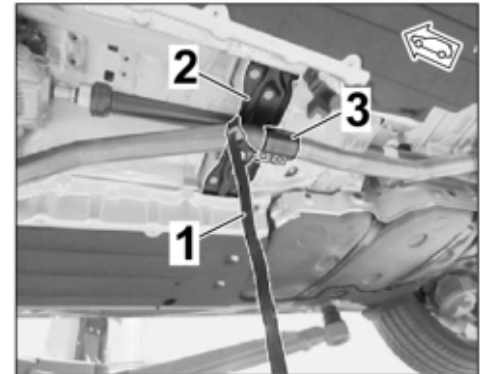

Figure 7
1.3.3 Secure catalytic converter exhaust pipe on the transmission support using restraining strap for securing loads, for example, to prevent it from bending down. ⇒ *Figure 7*